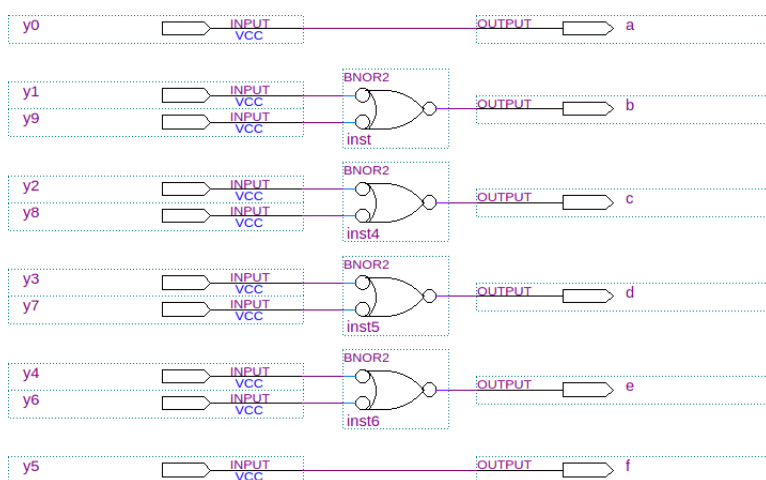

Figure 2.2: Mapper schematic.
3. Make the connection shown in Figure 2.2.